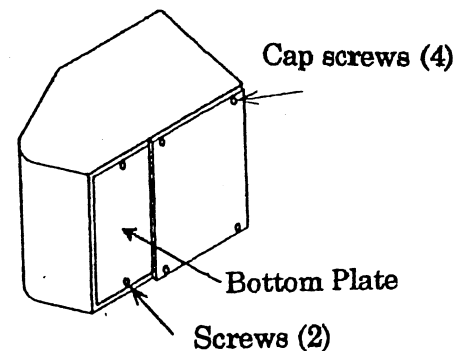

Figure 3
- (b) Remove two screws and washers. (See Fig.3)
- (a) Remove four hexagon socket head cap screws (M5) from the bottom plate. (See Fig.3)